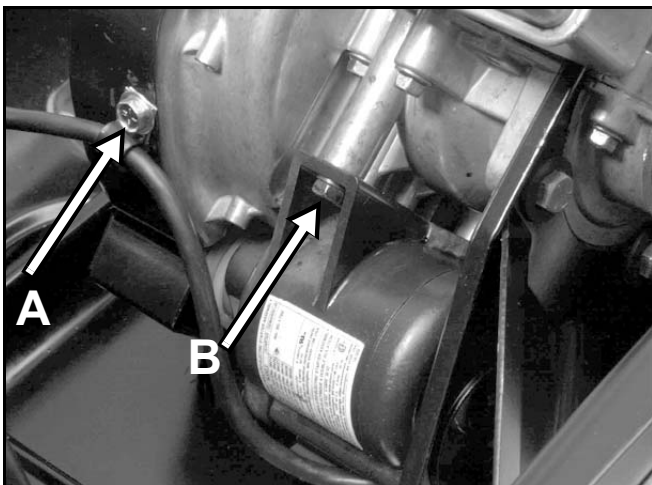

Figure 60
4. Remove one screw (A) (Figure 60) which holds the wire harness to the blower housing.
5. Remove one starter motor mounting screw (B) (Figure 60) from the front.